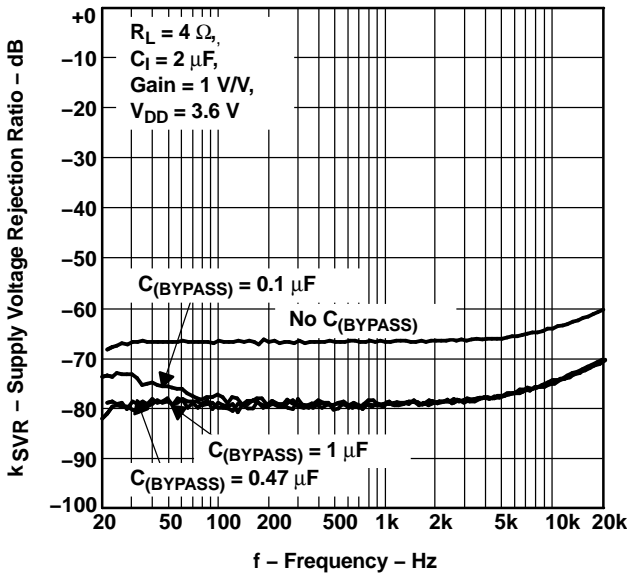

Figure 17.
- Mid-supply bypass capacitor, $C_{(BYPASS)}$, not required:** The fully differential amplifier does not require a bypass capacitor. Any shift in the mid-supply voltage affects both positive and negative channels equally, thus canceling at the differential output. Removing the bypass capacitor slightly worsens power supply rejection ratio (k_{SVR}), but a slight decrease of k_{SVR} may be acceptable when an additional component can be eliminated (See Figure 17).